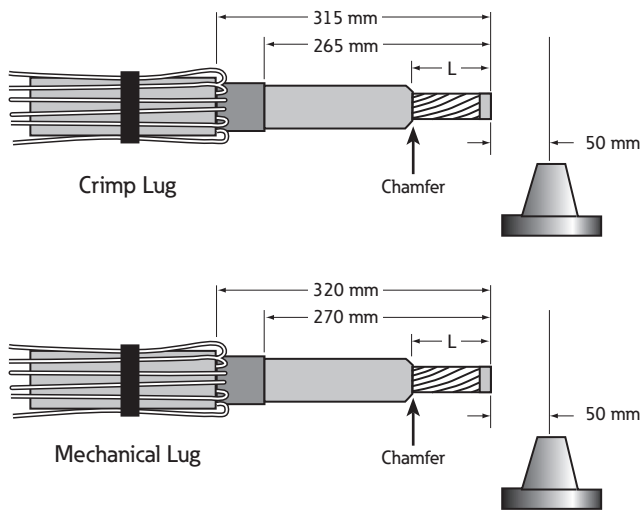

Figure 3. Cable preparation for crimp lug (top) and mechanical lug (bottom)
1. Train the cable to the desired finished position and cut the cable. (See Figure 3.)